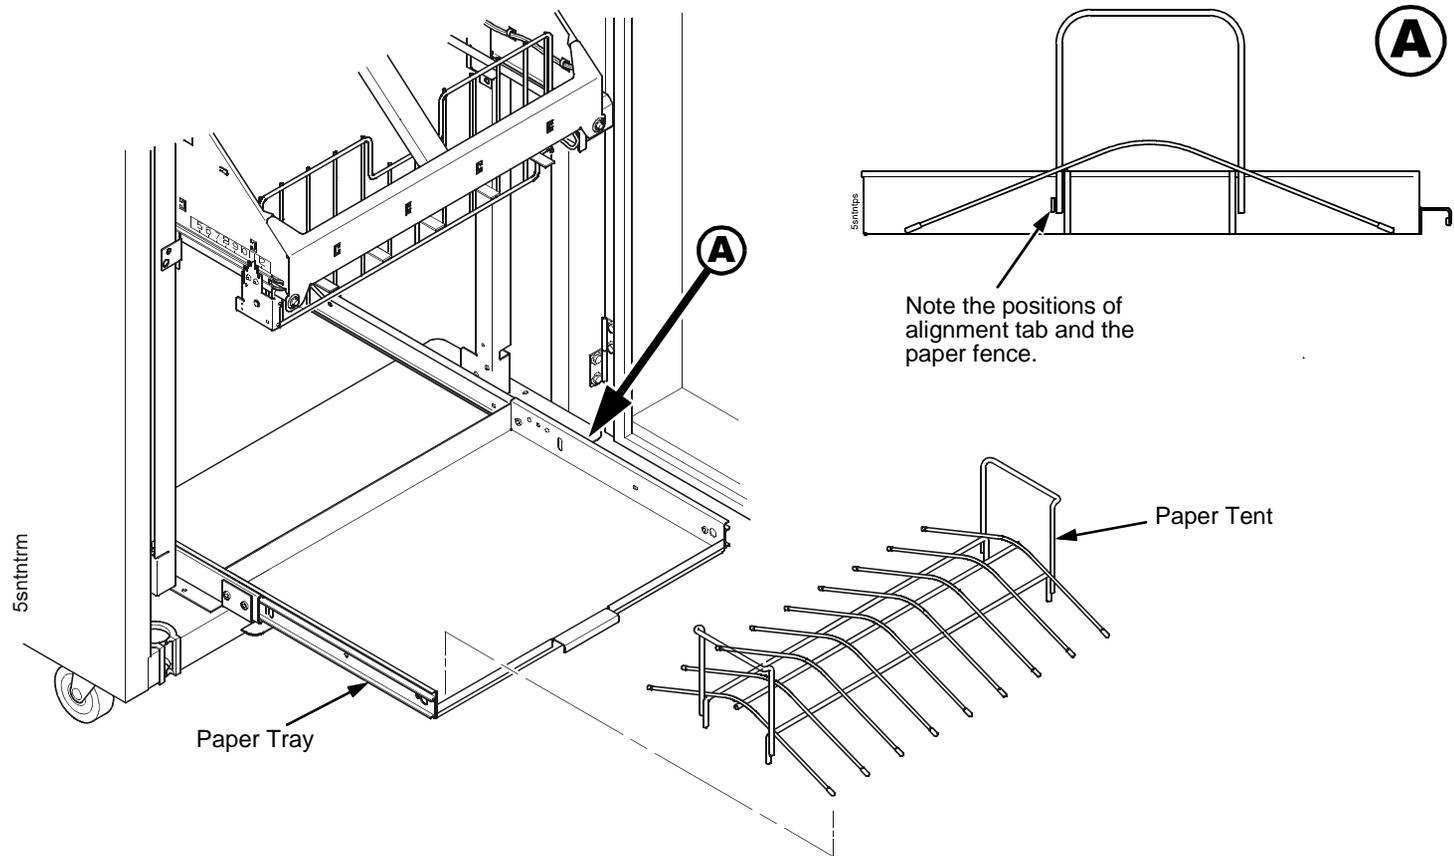

Figure 98. This figure shows how to install the paper tent in the paper tray.
39. Pull out the paper tray and install the paper tent. (Figure 98.)